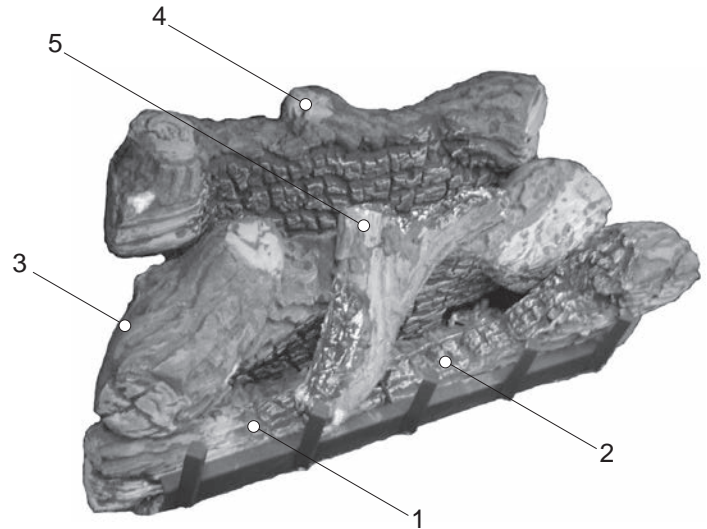
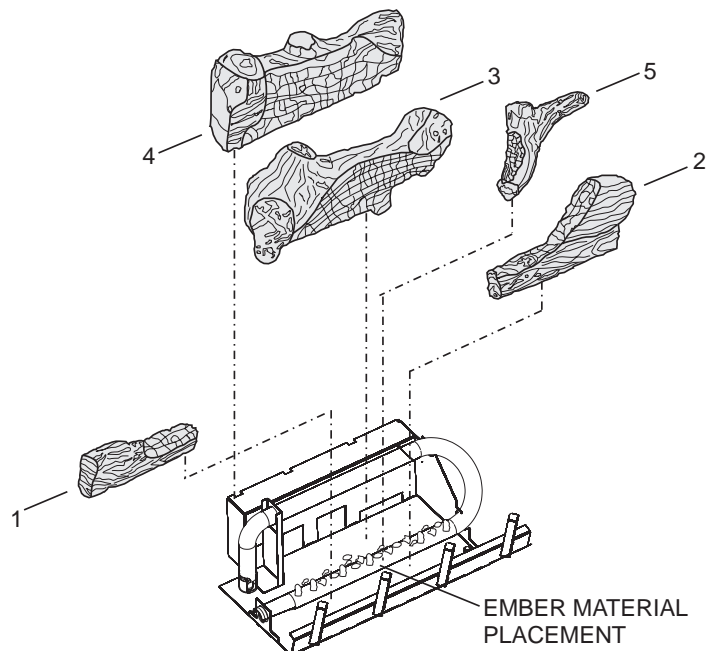

Figure 16
Figure 17
The positioning of the logs is critical to the safe and clean operation of this fireplace. Sooting and other problems may result if the logs are not properly and firmly positioned in the fireplace. Please refer to **Figure 16** and **Figure 17** and corresponding WARNING when completing following log placement instructions.
6. After all logs are positioned properly, apply Rockwool ember material to the front burner port area. To apply, carefully separate the ember material into small amounts no larger than "dime size" pieces. Fluffed up pieces one layer thick on top of the burner generally works best, and will provide the best ember glow. Do not place ember material more than one layer thick. No more than (1) small packet of ember material (part no. 15999) evenly placed on the burner, is recommended on BVD34 and BVD36 models. Using additional ember material will decrease the amount of ember glow effect. Extra ember material should be saved for future ember applications as necessary. **See Figure 17.**
Attention: Do not use **Figure 16** or **Figure 17** to order logs. Refer to parts list on pages 32 and 34 and parts view on pages 33 and 35 to order logs and/or ember material for your appropriate fireplace model.